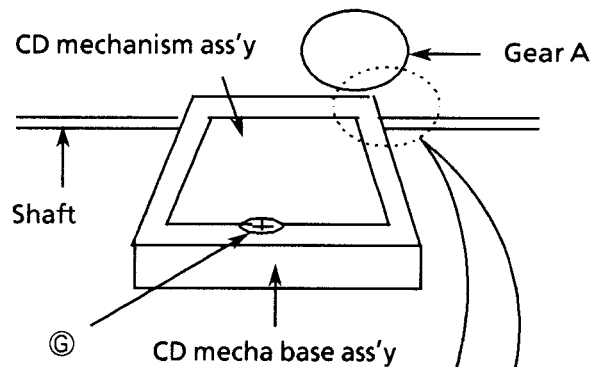
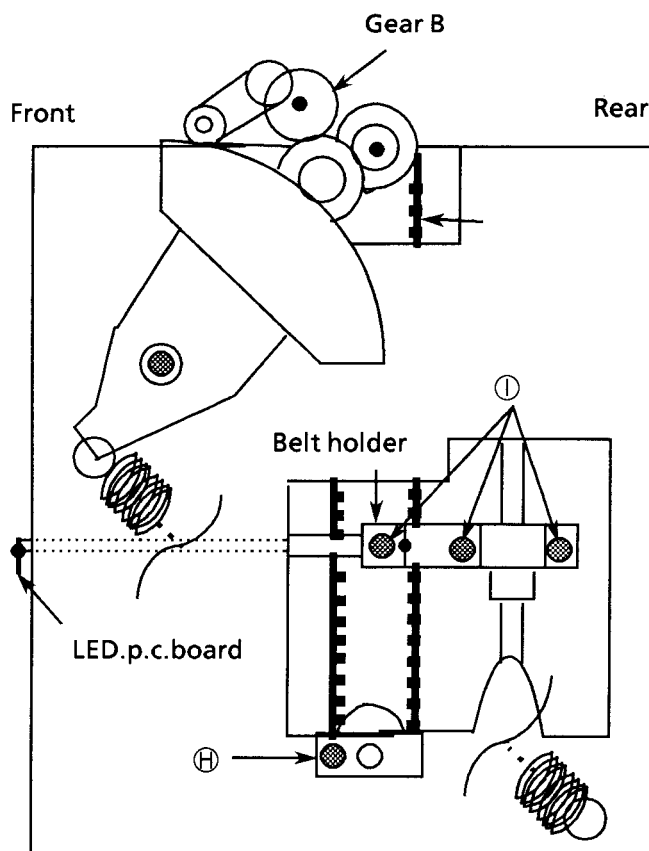

Fig 6. CD mecha base ass'y
Fig 8. Elevator mechanism ass'y View
4. Rotate the A gear shown in Fig.6, and move the CD mechanism ass'y to right side.
6. Remove the screw ⑥.
7. Remove 2 screws ⑧ securing the shaft of the both sides (Fig 8).
4. Rotate the Gear B so that the loading mecha can be set at the location shown in Fig.8 when yow look the unit from its side.
5. Remove 7 screws ①. securing the elevator belts of the both sides.